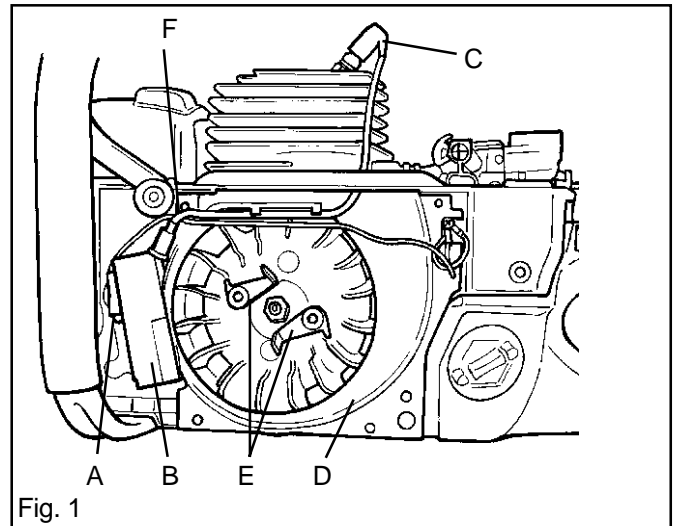
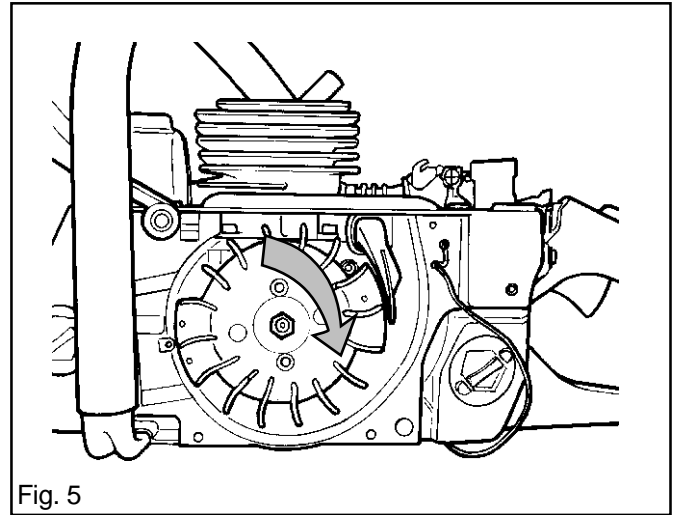
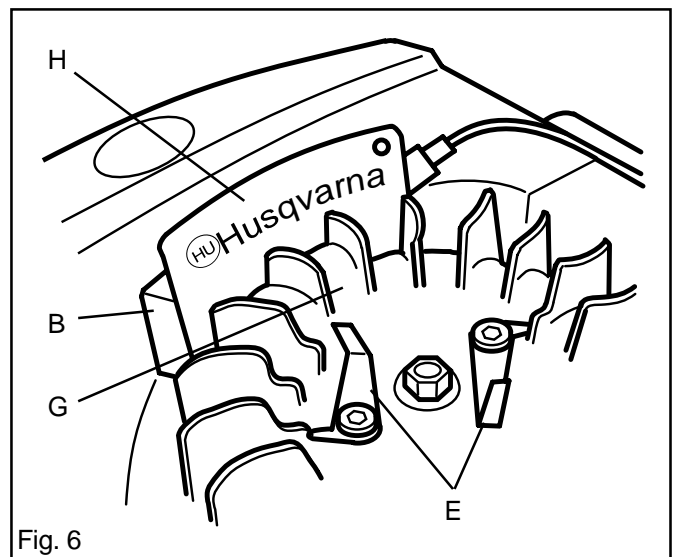

Fig. 1
Fig. 5
Fig. 6
3. If a replacement cord is to be fitted, push the free end through the hole in the cord pulley. Take hold of the end with pointed pliers inside the pulley and pull the cord through. See fig. 5.
6. Pull the cord out through the hole in the housing and attach the handle with a double knot. See fig. 5.
7. Wind the cord onto the pulley and rotate the pulley clockwise until the cord is correctly tensioned. See below and fig. 6.
5. Undo and remove the two pawls (E) for the recoil starter. See fig. 1.
2. Fit the flywheel washer and nut. Tighten the nut to 35 Nm. See fig. 5.
3. Locate the ignition module (B) without tightening the bolts.
4. Rotate the flywheel so that the magnet (G) is beside the ignition module. See fig. 6.
5. Insert the feeler gauge (H) (0.3 mm) into the air gap between the ignition module and flywheel magnet. The clearance applies only to the two lower pegs on the ignition module. See figs. 6 and 7.
7. Fit the cable guide (D) and press in the HT lead into place. Remove the piston stop and connect the HT lead to the spark plug.
8. Pull out the blue lead, thread it under the HT lead at F and push home the cable clip onto the ignition module. See fig. 1.
9. Press the blue lead into the groove in the cable guide. See fig. 1.
10. Attach the pawls (E) for the recoil starter. See fig. 1.